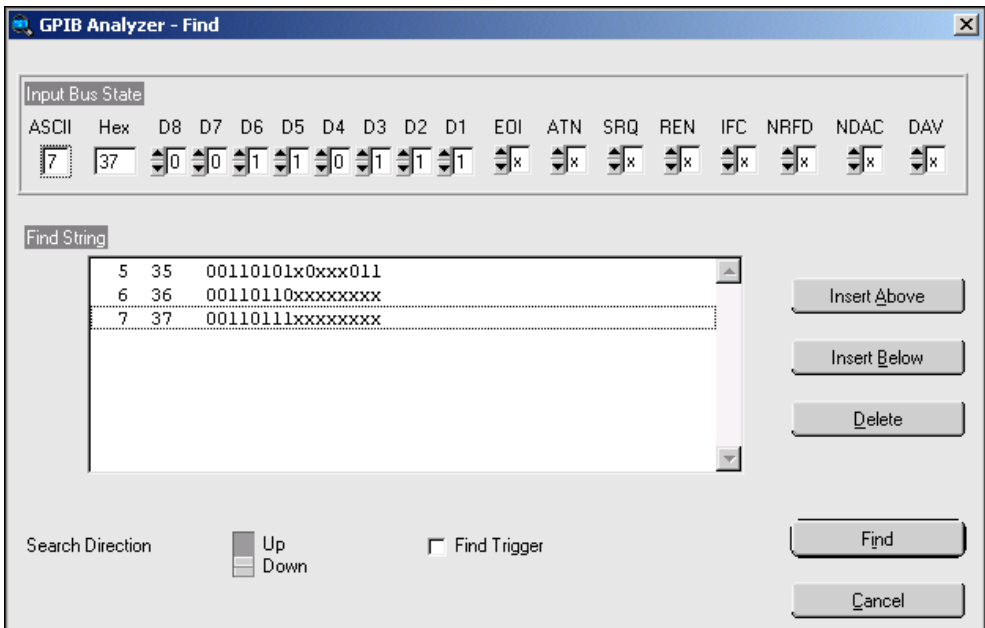

Figure 4-6. Find Dialog Box
14. Choose **Insert Below** again, but this time enter 7. These characters form a string (“567”) that the analyzer searches for in the capture file. The **Find** dialog box should look like Figure 4-6.